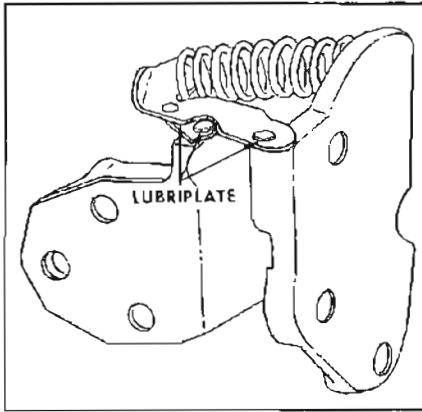

Figure 1-13—Door Hold Open Lubrication
1. Front and Rear Door Hinge Hold Open - Wipe off dirt and apply a thin coat of Lubriplate or equivalent at points indicated in Figure 1-13.